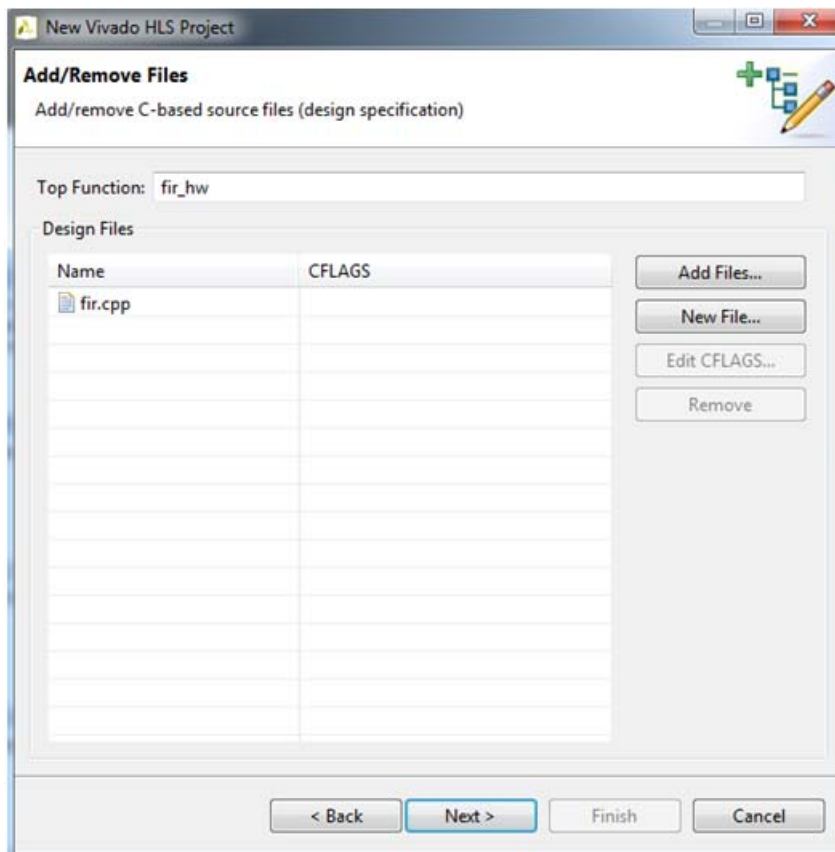

Figure 3-3: Add Files for Hardware Synthesis
4. Click **Next** to set the top function to `fir_hw` and add the `fir.cpp` (Figure 3-3).